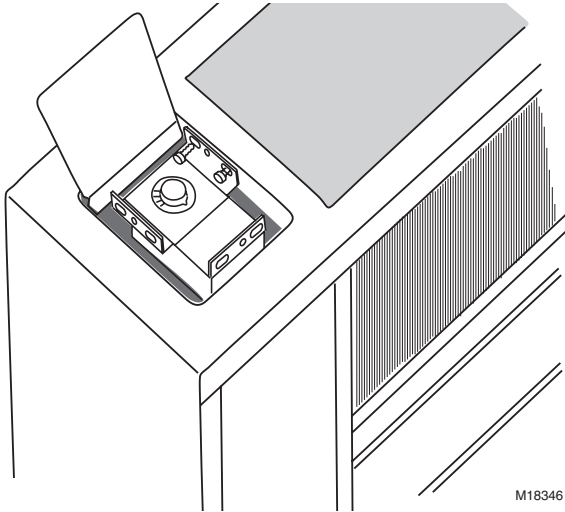

Fig. 5. Terminal unit top view with the thermostat mounted in the preferred position.
2. Mount the thermostat. See Fig. 5 or 6.